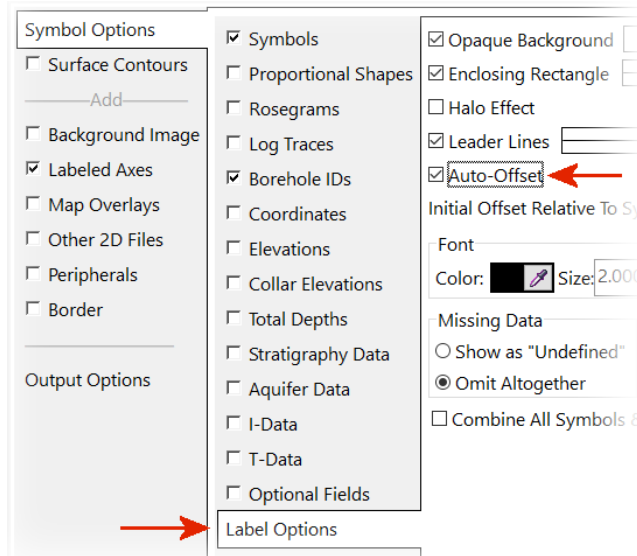

Figure 55
- To address Problem #2 (labels overplotting other labels), click on the *Label Options* tab (Figure 55) and enable the *Auto-Offset* option.